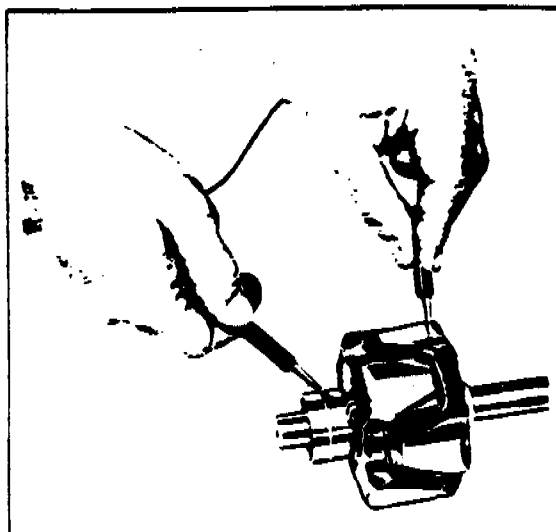
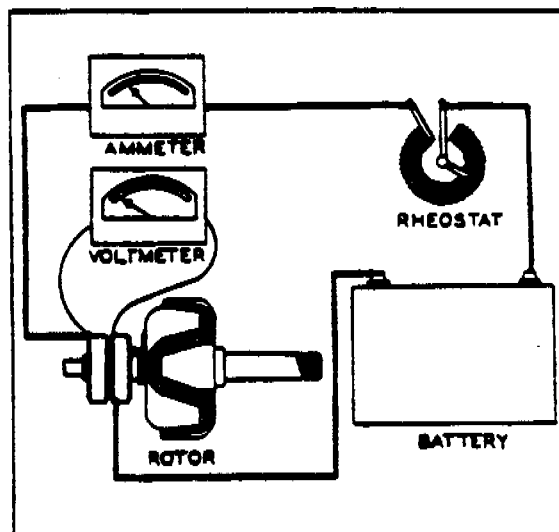

FIGURE 9-27g. TESTING ROTOR FOR GROUNDS
FIGURE 9-27h. TESTING ROTOR FOR SHORTS
a. Rotor: The rotor should be tested for grounded or shorted windings. The ground test can be made with test probes, connected in series with a 110-volt test lamp, an ohmmeter or any type of continuity tester. (Refer to Figure 9-27g.) There must not be any continuity between the slip rings and the rotor shaft or poles. To test for shorted turns in the rotor winding, connect a voltmeter, ammeter and rheostat as shown in Figure 9-27h, or use an ohmmeter. Rotor current draw and resistance are listed in the individual specification pages. Excessive current draw or a low ohmmeter reading indicates shorted windings. No current draw or an infinite ohmmeter reading would indicate an open winding.